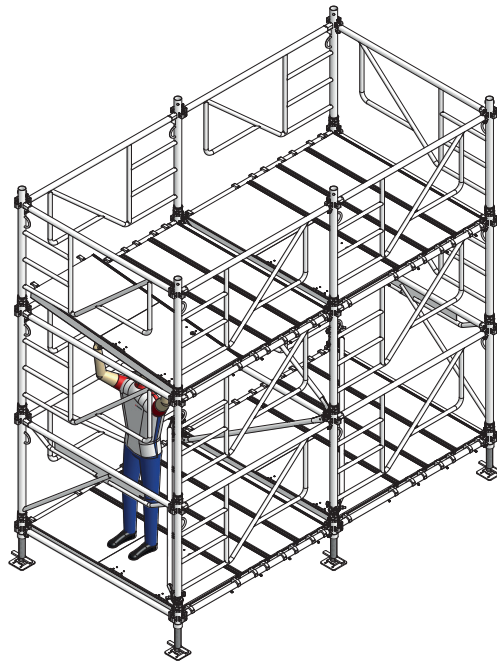

Fig. 18.1
19. Remove the scaffold platforms from level 1 and install them on level 2 (Fig. 18.1).